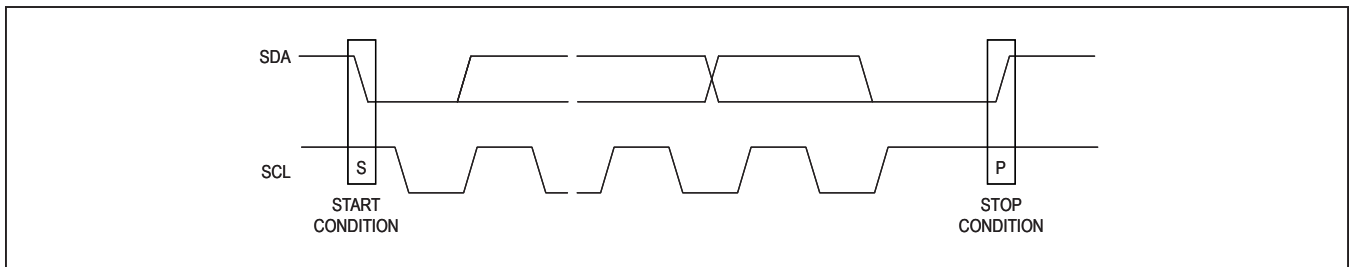
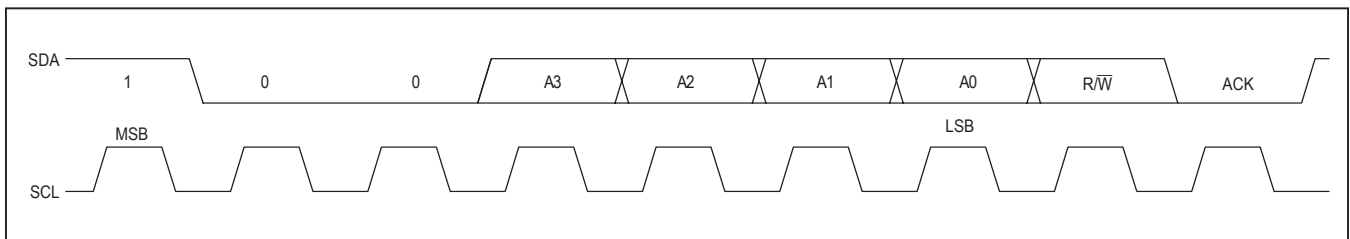

Figure 3. Standard Stop Conditions
Figure 6. Slave Address
Each transmission consists of a START condition (Figure 3) sent by a master, followed by the MAX6956 7-bit slave address plus R/W bit (Figure 6), a register address byte, one or more data bytes, and finally a STOP condition (Figure 3).
finished communicating with the slave, it issues a STOP (P) condition by transitioning SDA from low to high while SCL is high. The bus is then free for another transmission (Figure 3).
The MAX6956 has a 7-bit-long slave address (Figure 6). The eighth bit following the 7-bit slave address is the R/W bit. It is low for a write command, high for a read command.